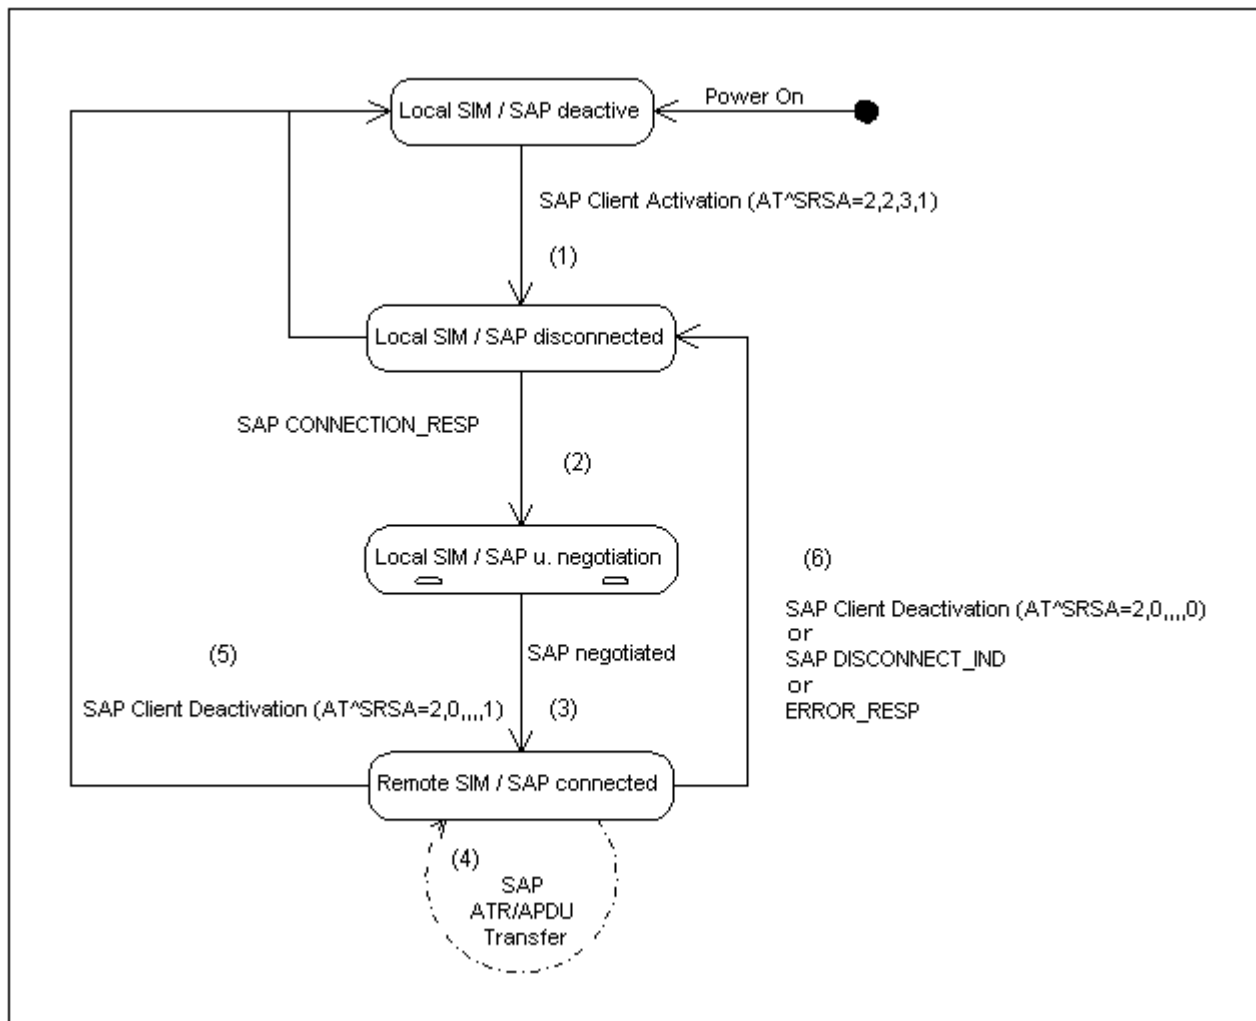

Figure 15.3: SIM usage states of SAP client
After SAP server activation (see (1) in Figure 15.3, SIM usage states of SAP client) the ME waits for the SAP message CONNECTION_REQ. The server will use its local SIM until the parameter negotiation has been accomplished successfully.